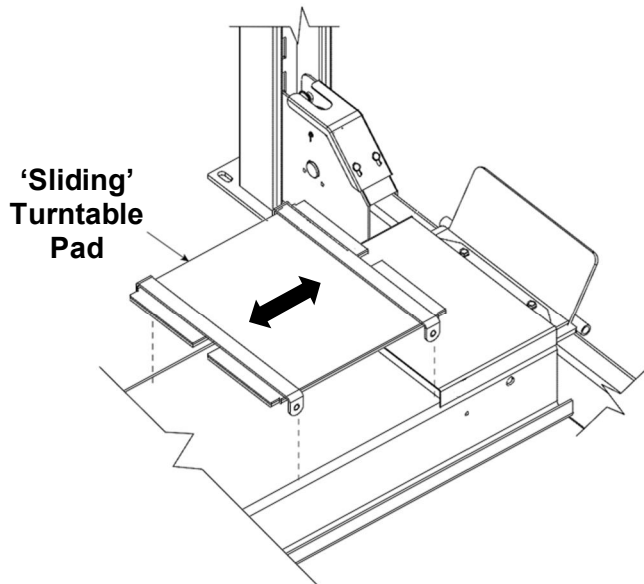

Fig. 3
- 4) Position the Sliding Turntable Pad (#3), so the front edge is positioned against the rear of the Front Spacer - **Fig. 3**.